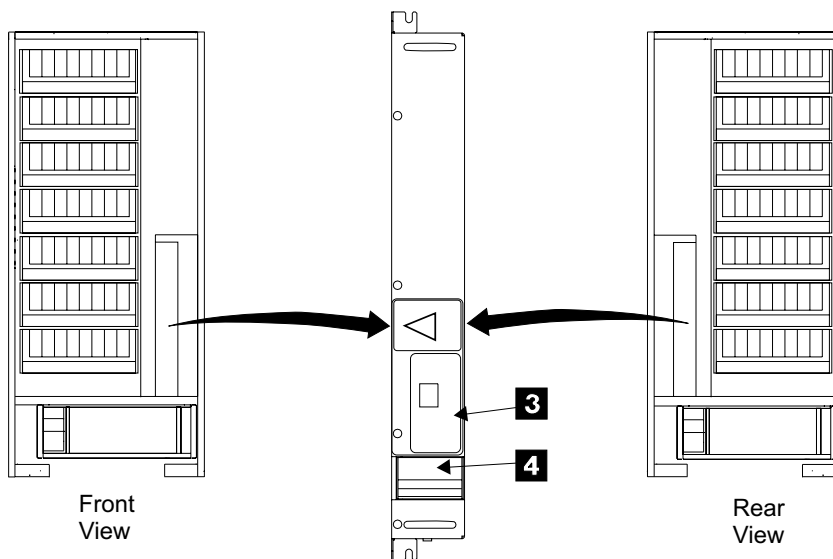

Figure 55. 350 V Battery Circuit Breaker Location (t008978m)
- c. If a 350V battery is present, set the 350 V battery circuit breaker (CB) **4**, in Figure 55 on page 74, to On (I, up).